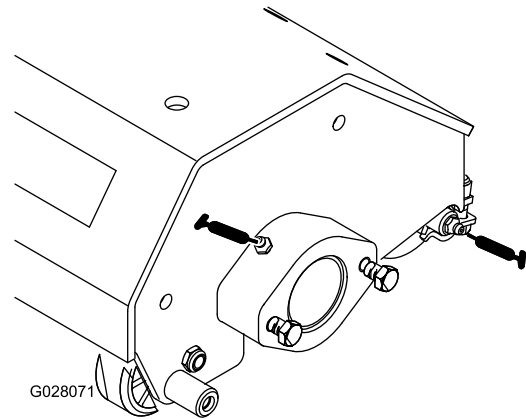

Figure 12
2. Apply grease to the tri-roller shaft bearings and rear roller bearings (Figure 12) until pressure is felt.